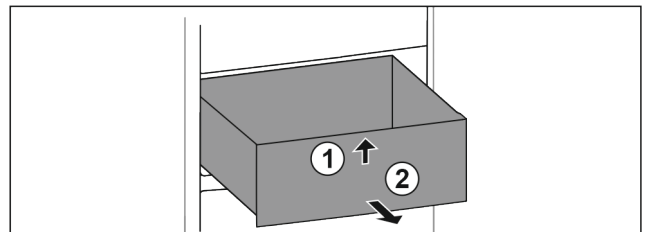

Fig. 17
- ▶ Lift at the front Fig. 17 (1).
- ▶ Remove to the front Fig. 17 (2).